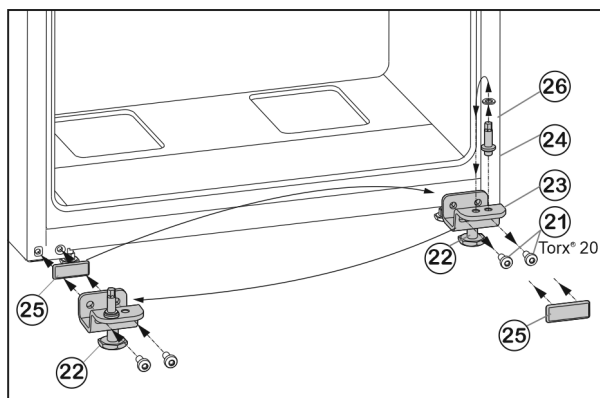

Fig. 9
- Unscrew fastening screws *Fig. 9 (21)*.
- Remove the lower bearing block *Fig. 9 (23)*, complete with bearing bolt *Fig. 9 (24)*, washer *Fig. 9 (26)* and adjustable foot *Fig. 9 (22)*.
- Unscrew the bearing bolt *Fig. 9 (24)*, complete with washer *Fig. 9 (26)*, re-locate it into the mounting hole on the opposite side of the bearing block and tighten again.
- Carefully remove the cover plate *Fig. 9 (25)* and re-locate it to the other side.
- Screw on the lower bearing block *Fig. 9 (23)*, complete with bearing bolt *Fig. 9 (24)*, washer *Fig. 9 (26)* and adjustable foot *Fig. 9 (22)* to the new hinge side, with the help of a cordless screwdriver if necessary, and **tighten (with 4 Nm)** once again.
- Lower the door from above onto the bearing bolt *Fig. 9 (24)*.
- Unscrew the adjustable foot *Fig. 9 (22)* on the lower bearing block *Fig. 9 (23)* until it touches the floor.